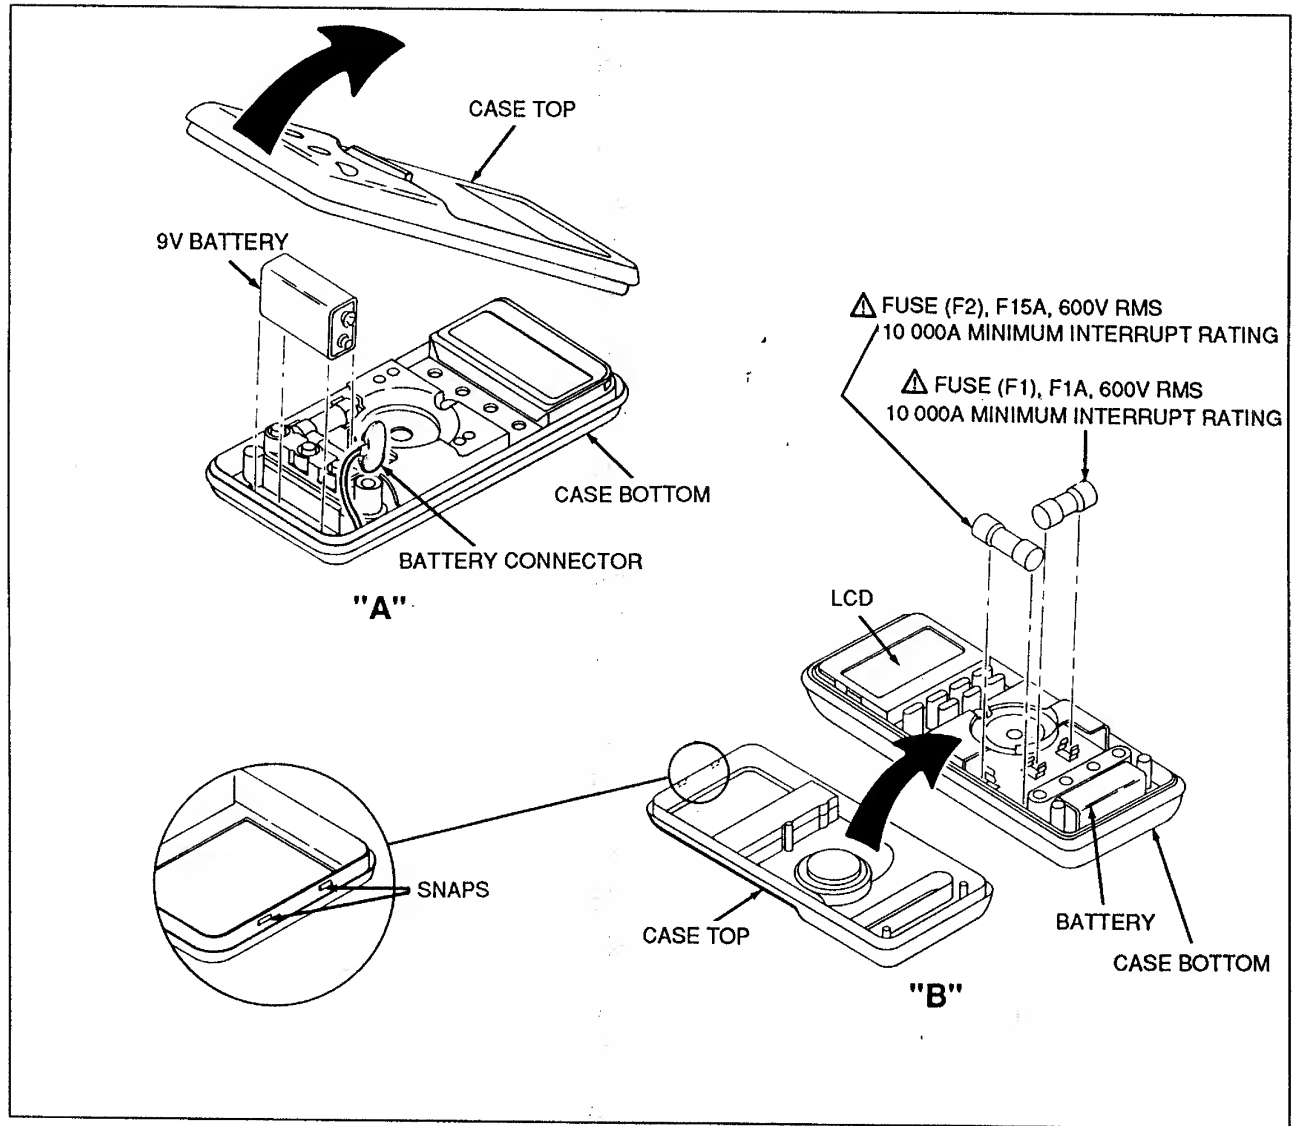

Figure 20. Battery and Fuse Replacement
2. The case bottom is secured to the top by three screws and two snaps at the LCD end (see Figure 20). Using a Phillips-head screwdriver, remove the three screws from the case bottom and turn the case over.
2. Locate the defective fuse (see Figure 20) and remove it by gently prying loose one end of the fuse and sliding the fuse out of the fuse bracket.